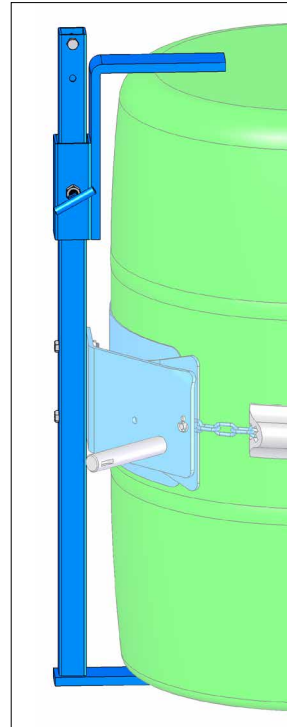

Figure 2.1
- 1. Bracket Assembly Kit # 4556M-P** is required to handle a RIMLESS plastic drum (figure 2.1), and is also recommended for a fiber drum. The Bracket adjusts for a 31" to 39" (79 to 99 cm) tall drum. You can also handle a rimmed drum with the Bracket installed.